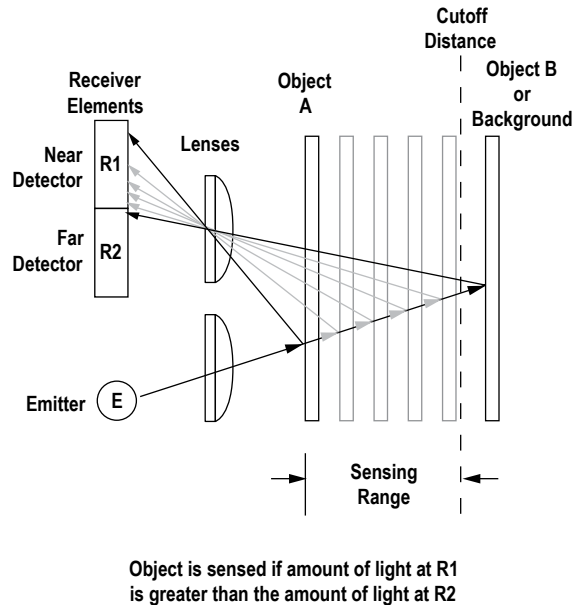

Figure 1. Fixed-Field Concept
The Q40FF compares the reflections of its emitted light beam (E) from an object back to the sensor's two differently aimed detectors, R1 and R2. See Figure 1 on page 2. If the near detector's (R1) light signal is stronger than the far detector's (R2) light signal (see object A in the Figure below, closer than the cutoff distance), the sensor responds to the object. If the far detector's (R2) light signal is stronger than the near detector's (R1) light signal (see object B in the Figure below, beyond the cutoff distance), the sensor ignores the object.